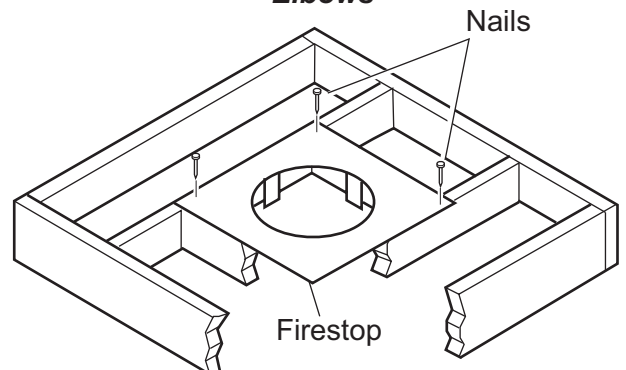
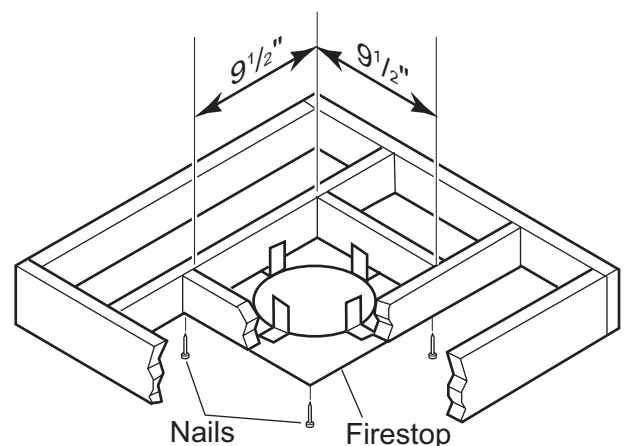

Figure 32 - If area above is a room, install firestop above framed hole as shown
Figure 33 - If area above is not a room, install firestop below framed hole as shown
1. Cut a 9 $\frac{1}{2}$ " (241mm) square hole in the ceiling using the locating hole as a center point. The opening should be framed to 9 $\frac{1}{2}$ "x9 $\frac{1}{2}$ " (241mm x 241mm) inside dimensions as shown in *Figure 32* using framing lumber the same size as the ceiling joist. If the area above the ceiling is an insulated ceiling or a room, nail firestop from the top side. This prevents loose insulation from falling into the required clearance space. See *Figure 32*. Otherwise, install firestop below the framed hole. The firestop should be installed with no less than three nails per side. See *Figure 33*.